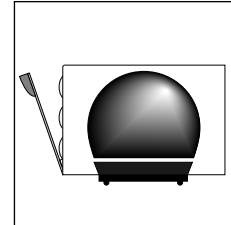

fig. 7
- Close the door to the click-stop position, as shown in the figure 7.